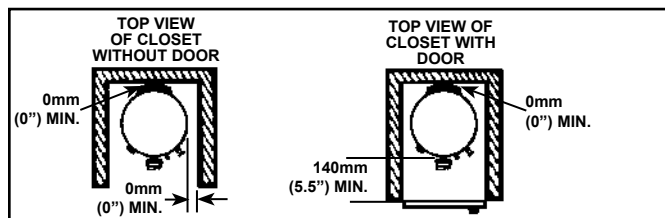
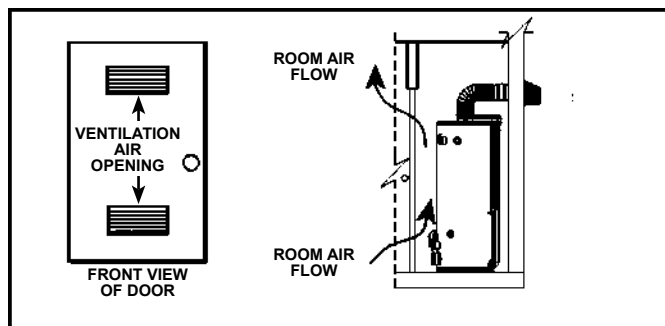

Figure 6
Figure 7
4. Carefully plan the place where you are going to put the water heater. Correct combustion, vent action, and vent pipe installation are very important in preventing death from possible carbon monoxide poisoning and fires (see Figure 6). Examine the location to ensure the water heater complies with the “Locating The New Water Heater” section in this manual.
When installed in a confined space such as a closet, it is recommended that the confined space be ventilated to minimize the buildup of heat around the heater. Figure 6 and Figure 7 show examples of ventilating a confined space.
Minimum clearances between water heater and combustibles are 0mm (0") at the sides and rear, 140mm (5.5") from the front and 305mm (12") from top. Minimum clearances from vent piping to combustibles is 25mm (1") except as noted in Figure 20. If clearances stated on the heater differ from these clearances, install water heater according to clearances stated on the heater (see Figure 6).